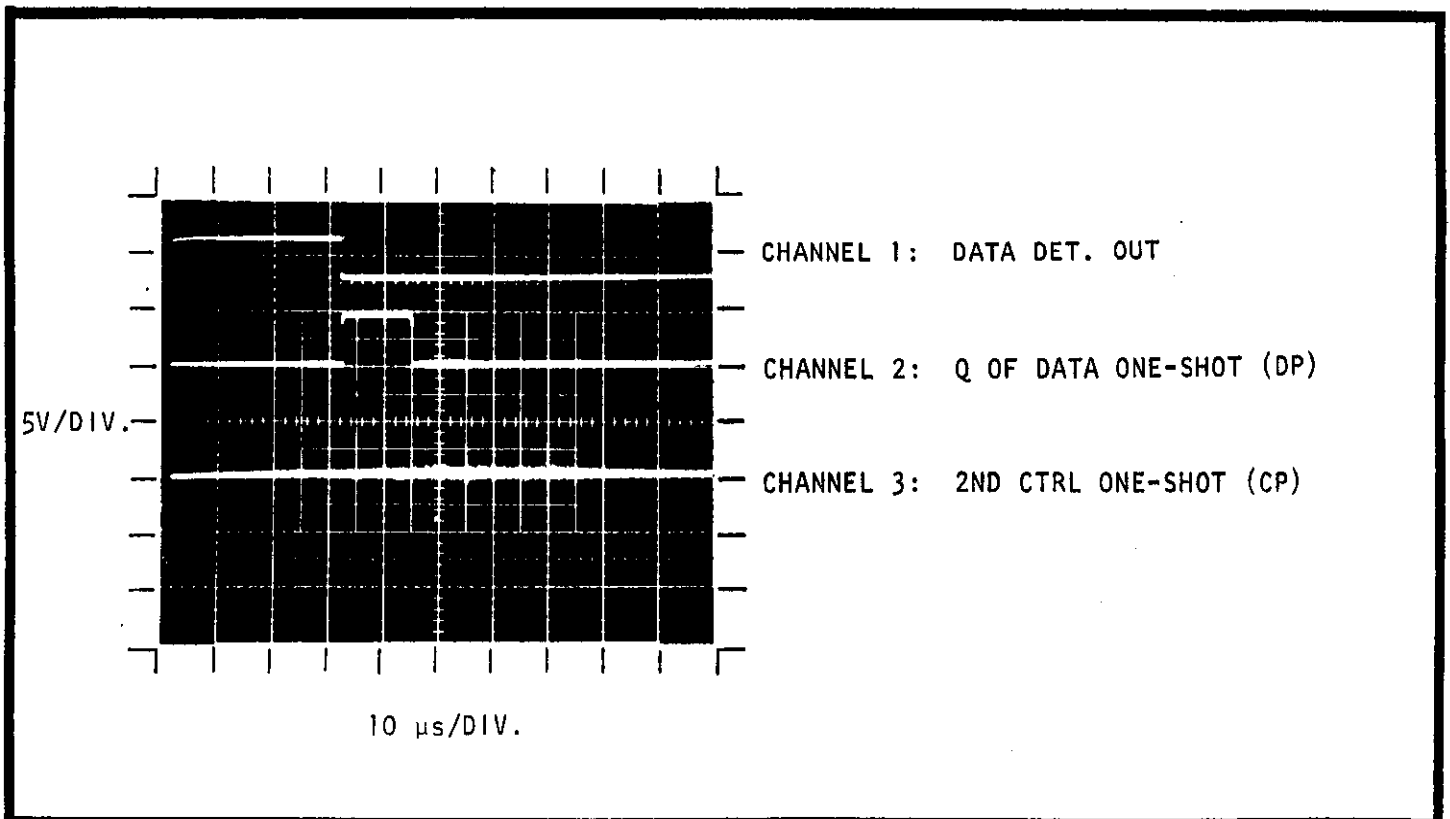

FIGURE 15. Trace For Test #7.
6. Verify the traces shown in Figure 15.